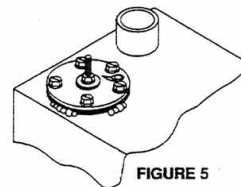

FIGURE 5
2. Screws should be hand tightened and a leak test (Figure 5) of this area should be performed to ensure no leaks. If uncertain how to perform any of the above procedures or are unsure of electrical wiring connections, seek the services of a qualified individual.